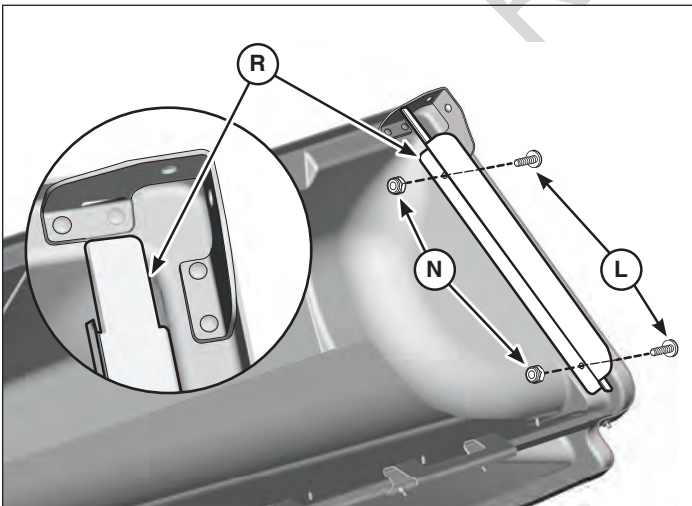

Figure 21
- Hold deflector plate (R, Figure 21) in cover and mark new hole locations using deflector plate as a template.
- Insert screws (L) through holes on outside of cover and deflector plate. Secure with nuts (N).